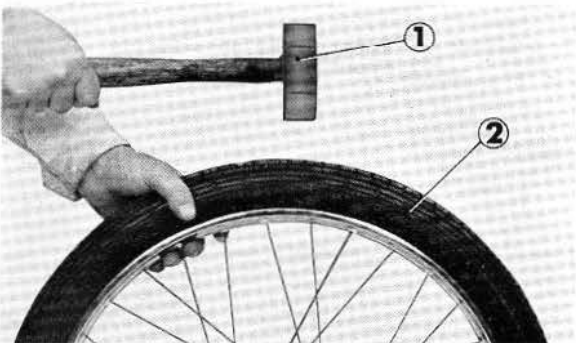

Fig. 4-6 ① Wooden hammer ② Tire
- a. After assembling the tire and tube, fill tire with approximately 0.5kg/cm² (7.1 lb/in²) of air and tap all around with a wooden hammer to prevent tube from being pinched. (Fig. 4-6)